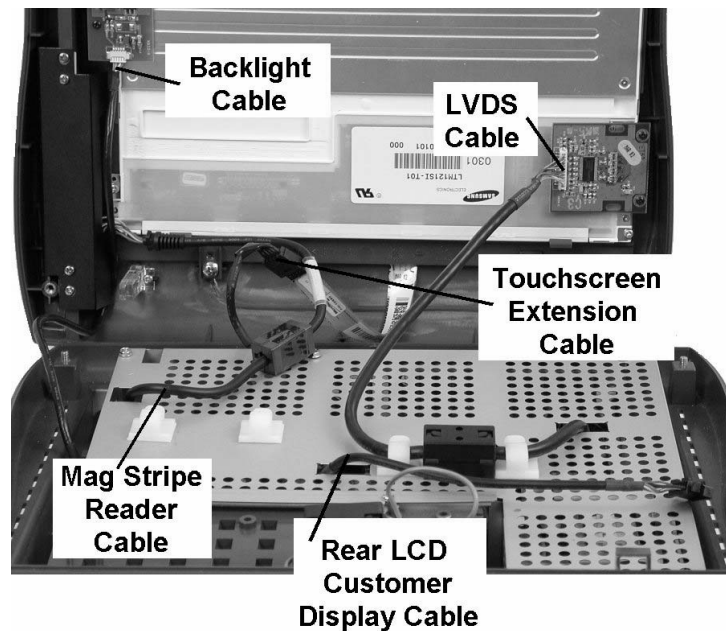
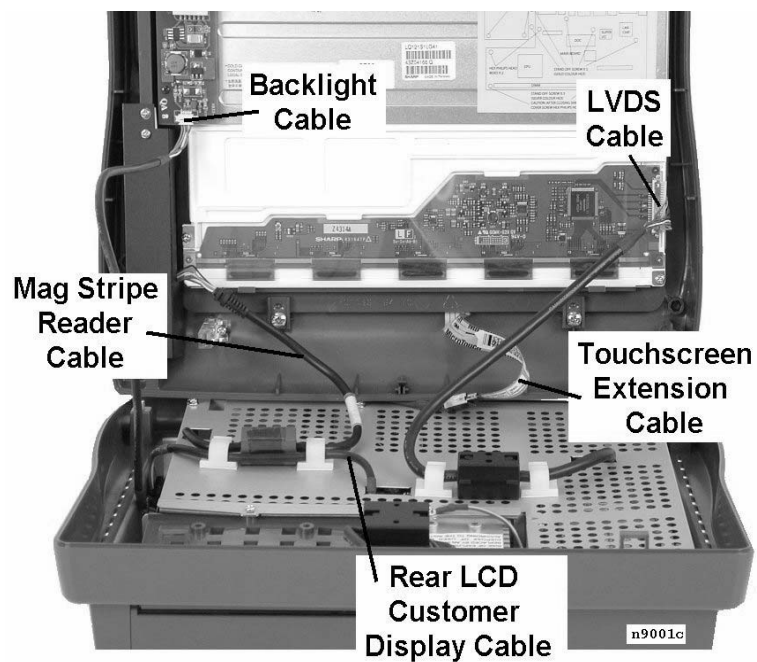

Figure 2-24: Connecting Cables to the Top Cover - Samsung LCD
Figure 2-25: Connecting Cables to the Top Cover - Sharp LCD
6. Connect the following cables to the top cover. Figure 2-24.
- LVDS cable to the LVDS Receiver Board on the Samsung LCD (Figure 2-24), or directly to the Sharp LCD Panel (Figure 2-25), and the Backlight Cable to the Backlight Inverter Board.